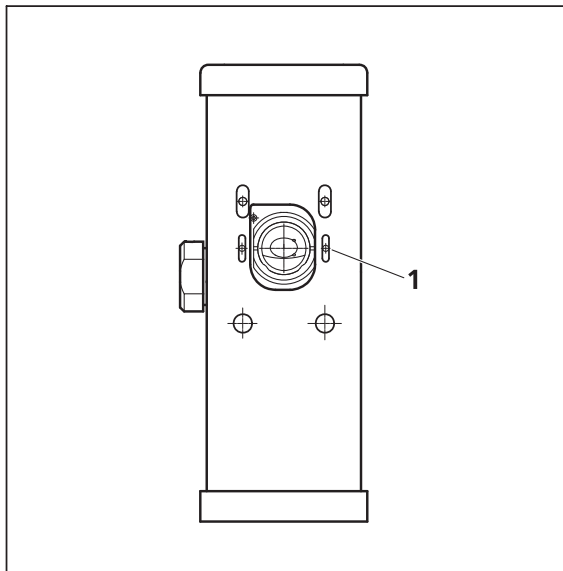

Fig. 1-23 Shutter opening on the periscope.
- Open the shutter in the periscope using an Allen key (Fig. 1-23/1) and slide in the tube completely, this will hold the shutter open.